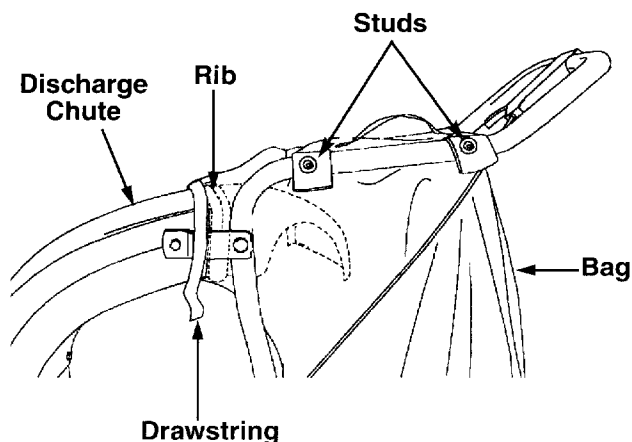

Figure 5
3. Squeeze the clamp on the drawstring, and pull the drawstring tight. Release the clamp. See Figure 5.